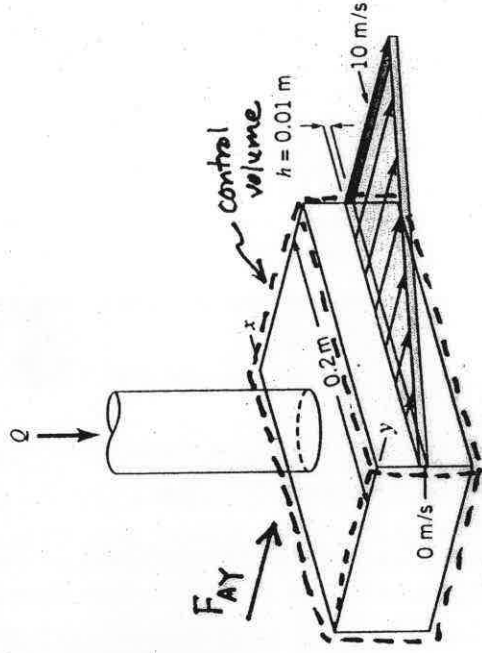

FIGURE P5.49
5.49 A sheet of water of uniform thickness ( $h = 0.01$  m) flows from the device shown in Fig. P5.49. The water enters vertically through the inlet pipe and exits horizontally with a speed that varies linearly from 0 to 10 m/s along the 0.2-m length of the slit. Determine the  $y$  component of the anchoring force necessary to hold this device stationary.